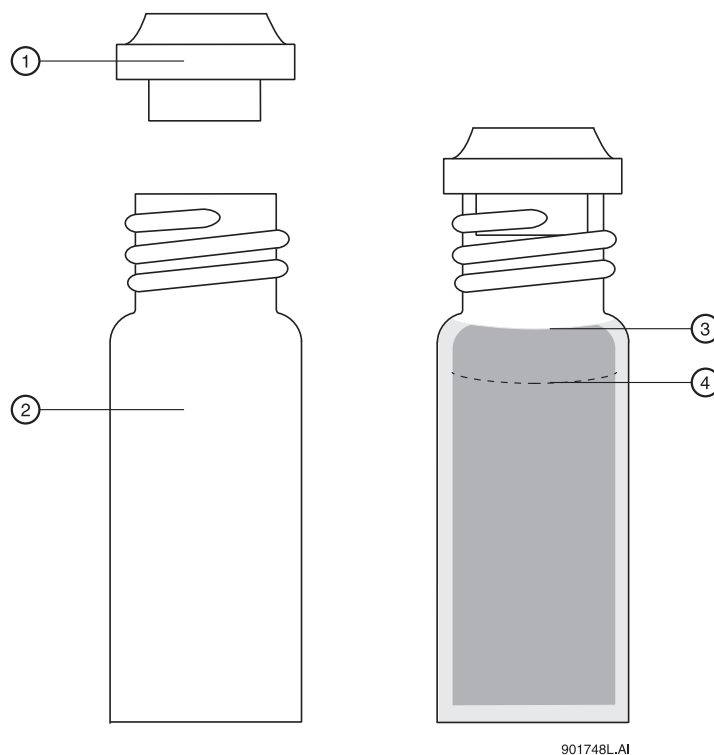

Figure 4.17 Filling 2.0 mL Vials
1. Fill vials as shown in Figure 4.17.
2. Put the cap on the vial as shown in Figure 4.17, then press in place.